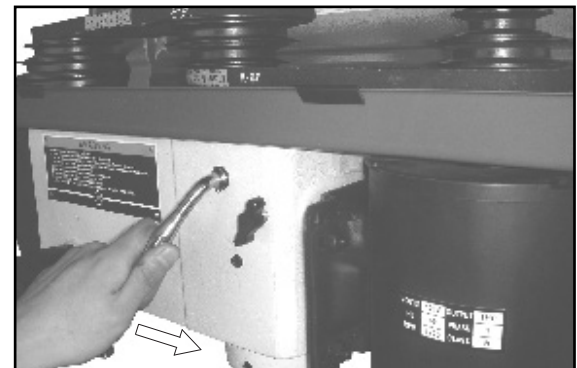

Figure 7
6. Release the locking knobs on the both sides of drill press head. Release the tension on the belt by swinging the tension lever from right to left (Figure 7).